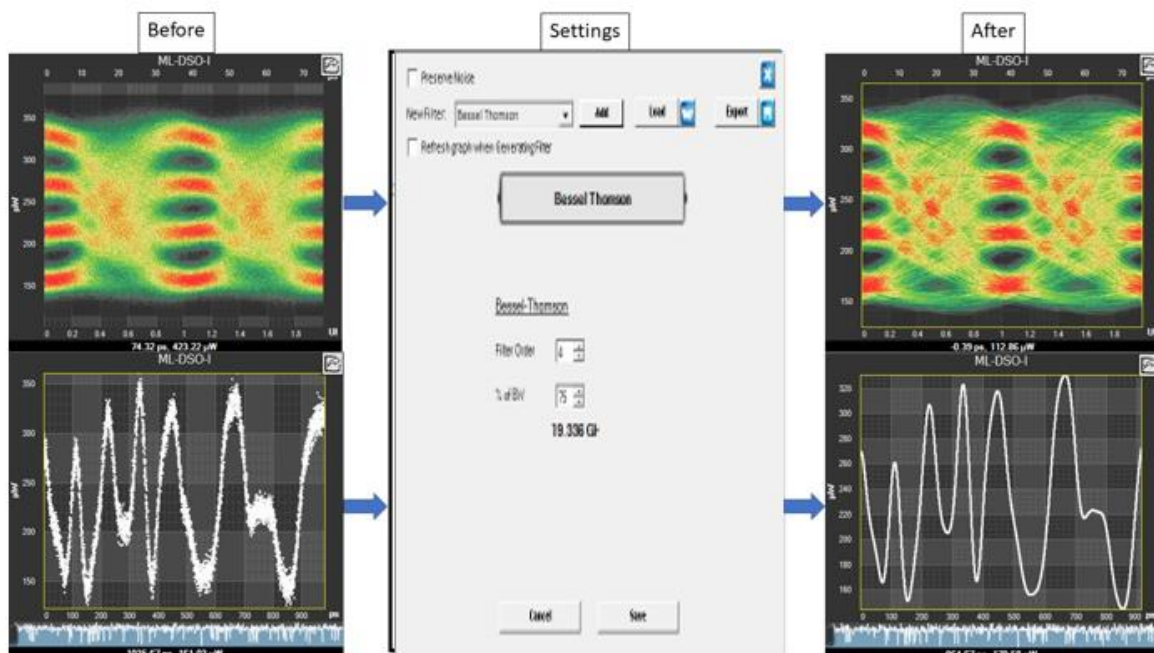

Figure 28: Bessel Thomson Filter
- **Pattern mode:** this mode works only if you are locked to a pattern. It shows the train of bits. An example is shown in Figure 28.